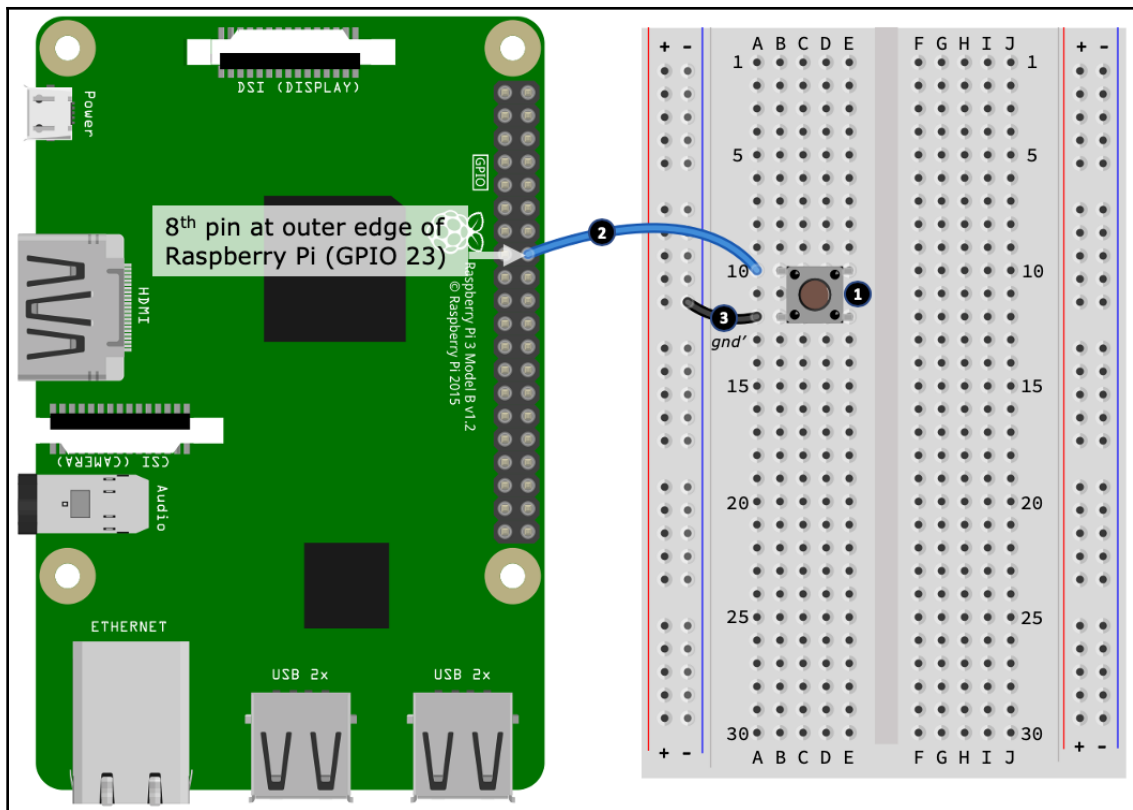

Figure 2.3 – Connecting the push button
*Figure 2.3* illustrates the push button connection we need to create on our breadboard. Please refer to this as you follow the forthcoming steps:
Here is how to connect the push button into your breadboard and connect it to your Raspberry Pi. The following step numbers match the numbered black circles in *Figure 2.3*:
1. Position the button on the breadboard as shown. It does not matter exactly which row of holes the button goes into, however, *Figure 2.3* shows the button positioned (top-left leg) at hole **B10**.